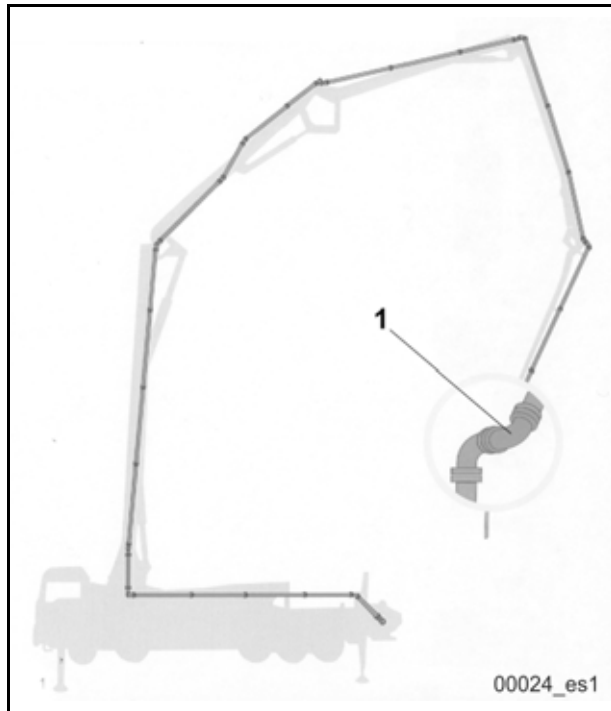

Fig. 367
The impact bend (1) (**Fig. 367**) is the penultimate bend in the boom pumping line. The concrete frequently falls into this elbow and the impacting material causes so-called impact wear.